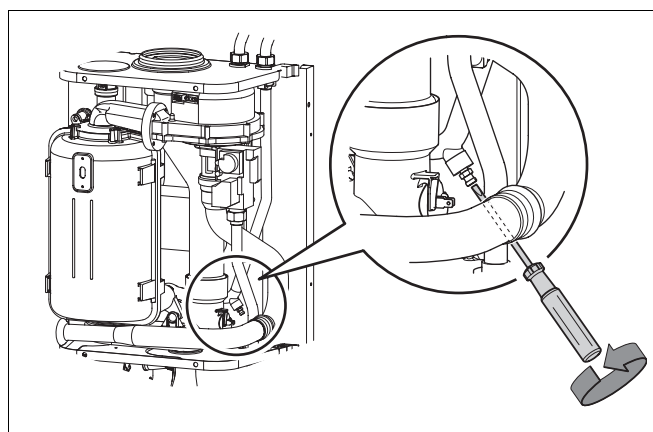

Fig. 42 Draining the boiler
- Loosen the draining nipple with a screwdriver see fig. 42.